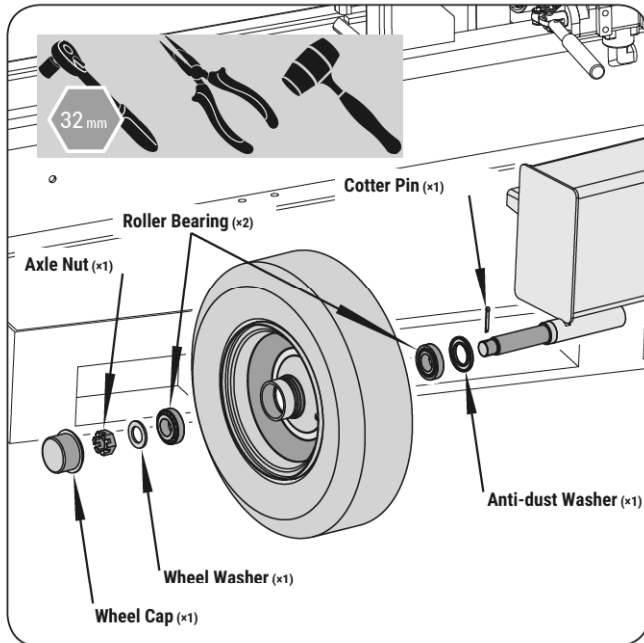

Figure 3d
- Slide the anti-dust washer and one roller bearing onto the axle. Use a soft-faced hammer to tap the roller bearing lightly to make sure the bearing is in the right position. (See **Figure 3d**.)